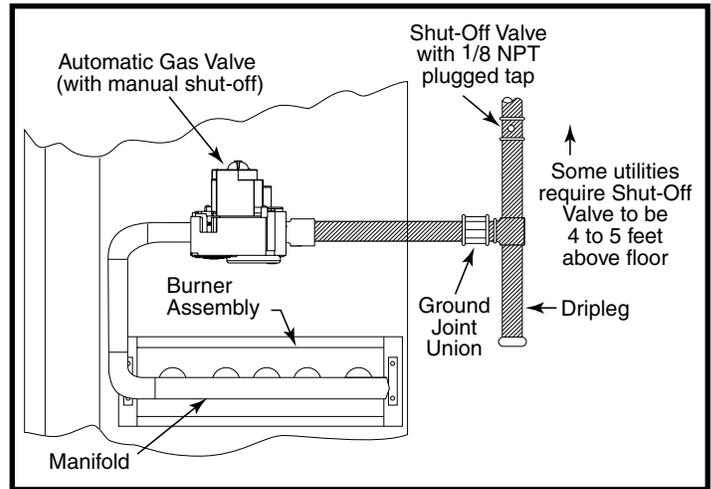

Figure 7. Typical Gas Hookup - Right Side Entry
- **Some local codes require the installation of a manual main shut-off valve and ground joint union external to the furnace. The shut-off valve should be readily accessible for service and/or emergency use. Consult the local utility or gas supplier for additional requirements regarding placement of the manual main gas shut-off. See Figure 7 \(page 15\).**
- A drip leg should be installed in the vertical pipe run to the unit (Figure 7).
This unit only has right side gas entry. When connecting the gas, provide clearance between the gas supply line and the entry hole in the unit's casing to avoid unwanted noise and/or damage to the unit. A typical gas service hookup is shown in Figure 7.